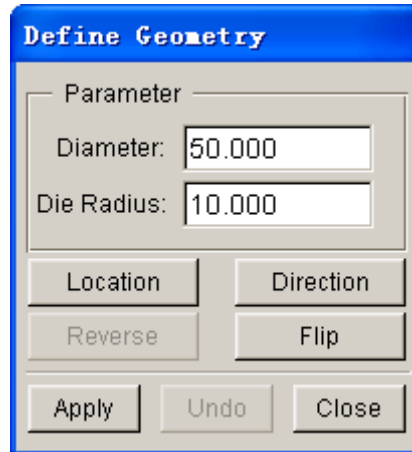
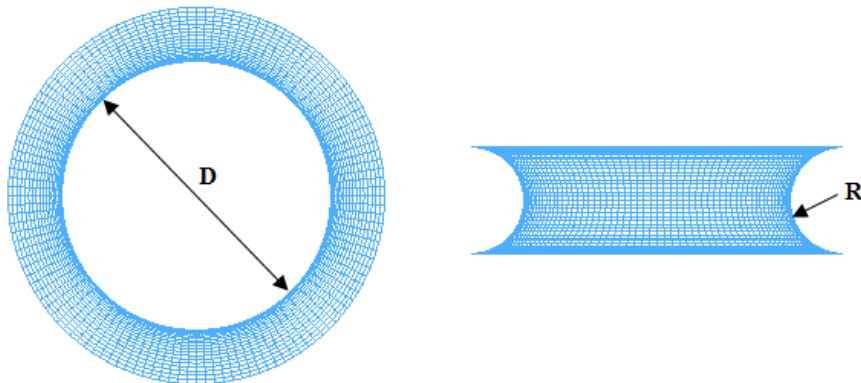

Figure 8.1.17 Define Geometry
Figure 8.1.18 Parameters defining geometry of Bend Die
The definition of BEND DIE is similar to definition of tube. As shown in Figure 8.1.17, the user can generate geometry of BEND DIE by defining the bend die diameter (D) and radius (R) illustrated in Figure 8.1.18.